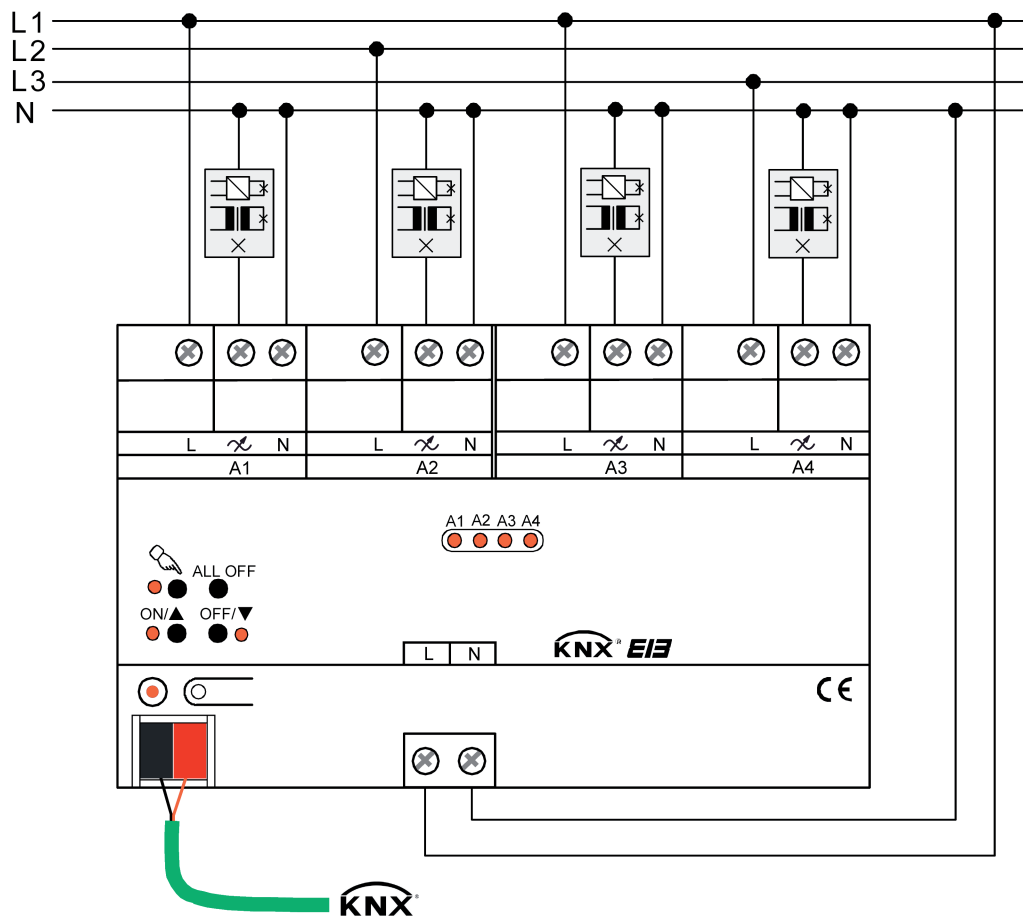

Figure 4: Electrical connection (using the example of the 4gang display variant)
- Connect the bus, the connection of the power supply and the load according to the connection diagram.(Figure 4).